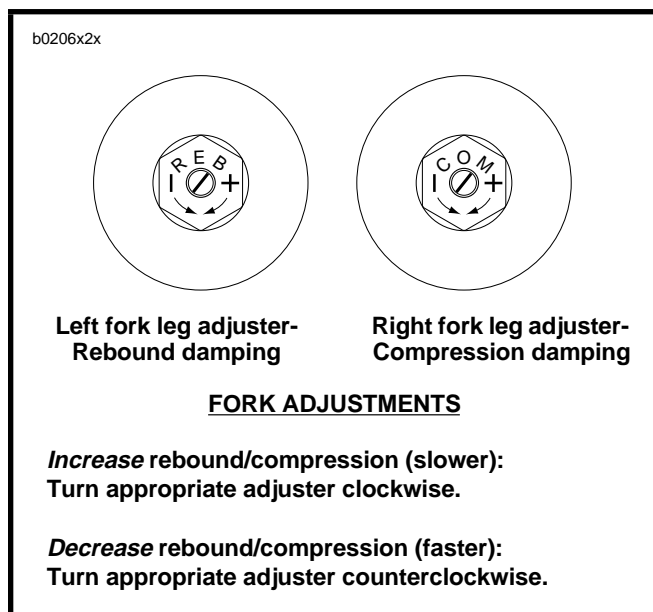

Figure 2-31. Fork Adjusters
2. See Figure 2-31. Turn adjuster to full slow position (completely clockwise).